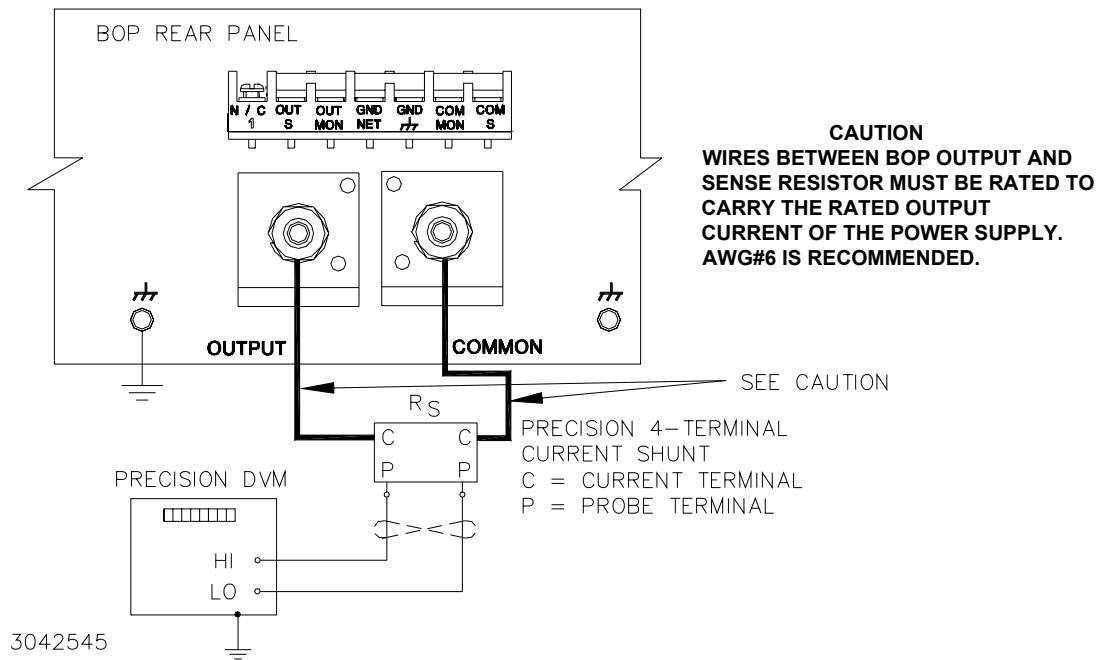

FIGURE 4-2. CALIBRATION SETUP FOR CURRENT MODE
19. Send **CAL:ZERO** to prepare for current calibration. After sending the command, the BOP output will be set to zero volts. Refer to Figure 4-2 to connect the C terminals of the Kelvin type sense resistor to the BOP and connect the DVM to the P (probe) terminals of the sense resistor ((LO terminal of DVM to common P terminal). Table 4-4 provides recommended sense resistor values for various BOP current outputs, as well as the formula for calculating expected measured values and tolerances for any sense resistor other than those recommended. Table 4-2 lists Kepco and Manufacturer part numbers for those sense resistors recommended.
16. Refer to Figure 4-2 to connect the C terminals of the Kelvin type sense resistor to the BOP and connect the DVM to the P (probe) terminals of the sense resistor ((LO terminal of DVM to common P terminal). Table 4-4 provides recommended sense resistor values for various BOP current outputs, as well as the formula for calculating expected measured values and tolerances for any sense resistor other than those recommended. Table 4-2 lists Kepco and Manufacturer part numbers for those sense resistors recommended.